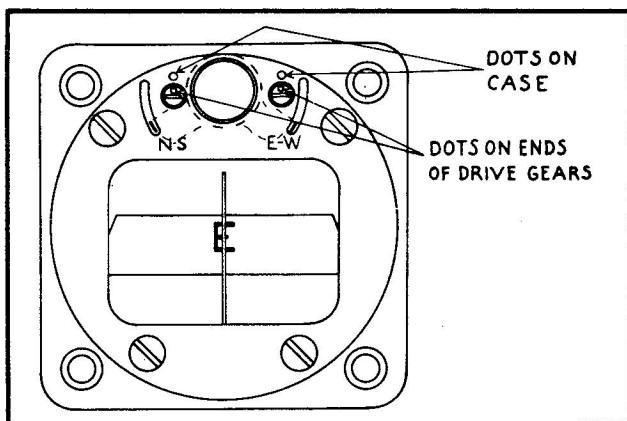

Figure 2-15. Front of Compass
f. Reinstall the N-S drive gear (36) making certain that the dot on the slotted end is adjacent to the dot on the front of the case. (See figure 2-15.)